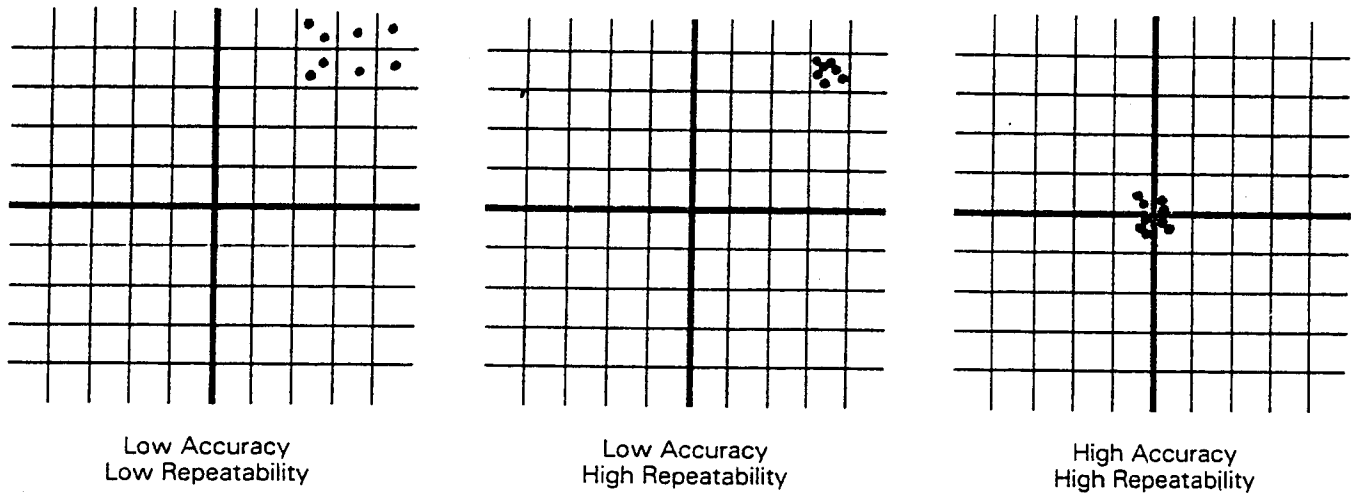

Figure 12. Diagram showing the difference between accuracy and repeatability
**Repeatability** is a statistical term associated with accuracy. It refers to the capability of a positioning system to return to a programmed point, and is measured in terms of the errors associated with the programmed point. The deviation from the control point (error) usually follows a normal distribution in which case the repeatability may be given as  $\pm 3\sigma$  where  $\sigma$  is the standard deviation. The repeatability is always better than the accuracy. The mechanical inaccuracy can be considered as the repeatability. Figure 12 shows the difference between the accuracy and the repeatability.